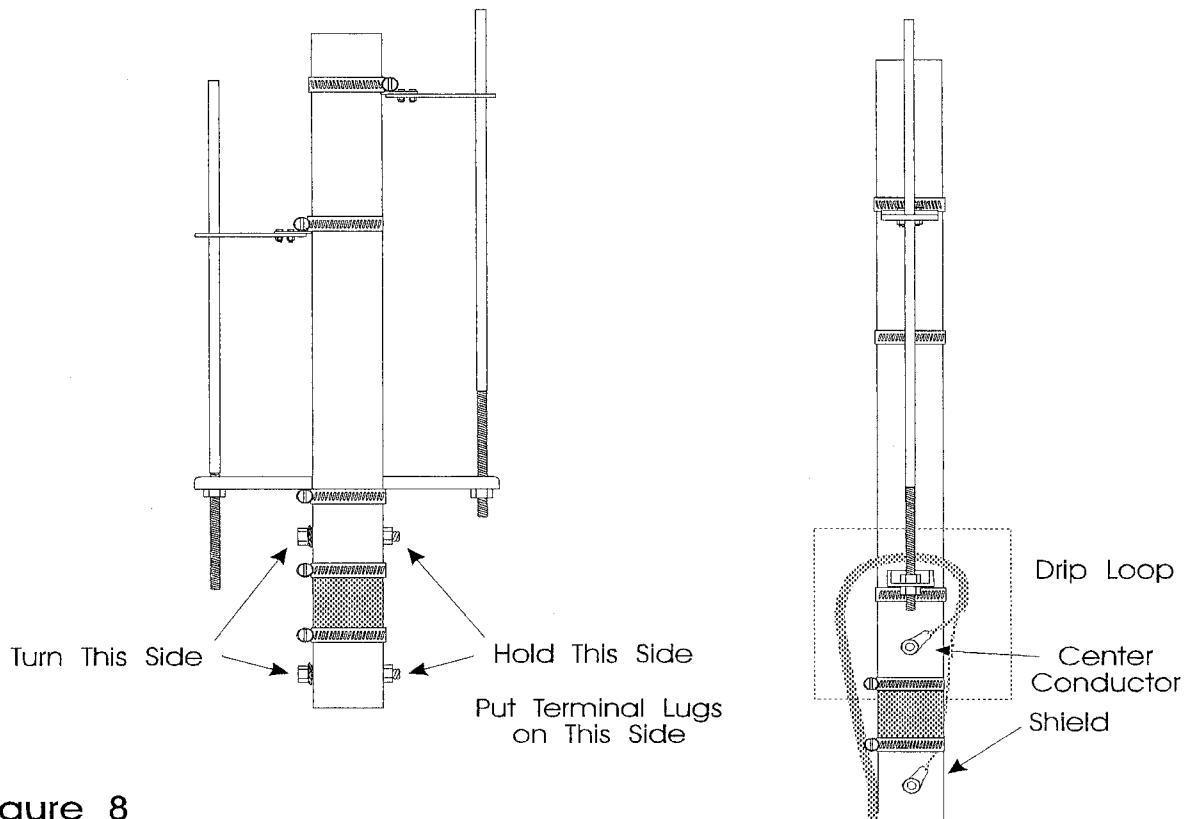

Figure 8
- [] 23. Remove the nuts on the center insulator bolts of the main element and install the *center conductor* lug of the coax *under the upper* element nut and the *shield* lug *under the bottom* element nut. Hold the nut in place and turn the bolt head to tighten these bolts so that the lug does not break off the end of the coax. Be sure to dress the coax so it loops up in a drip loop so water cannot get into the end. **See Figure 8.**